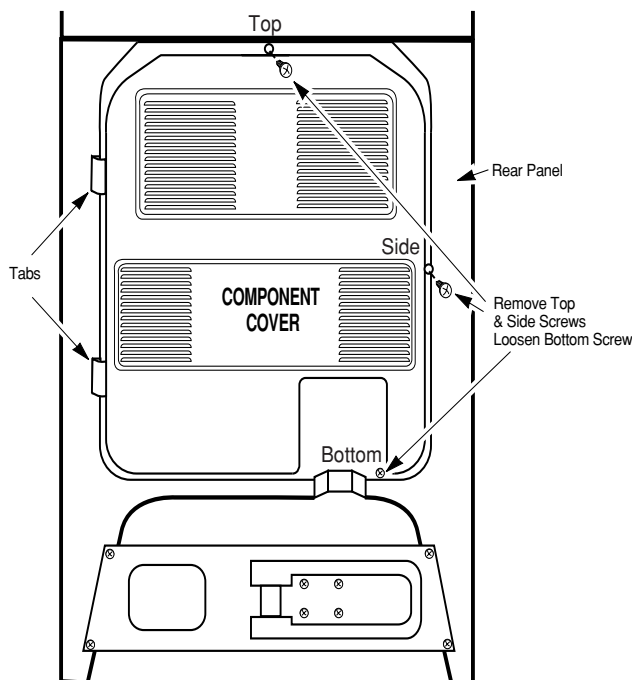

Figure 4-6
4. Remove the three screws from the component cover on the rear panel and remove the cover (see Figure 4-6).